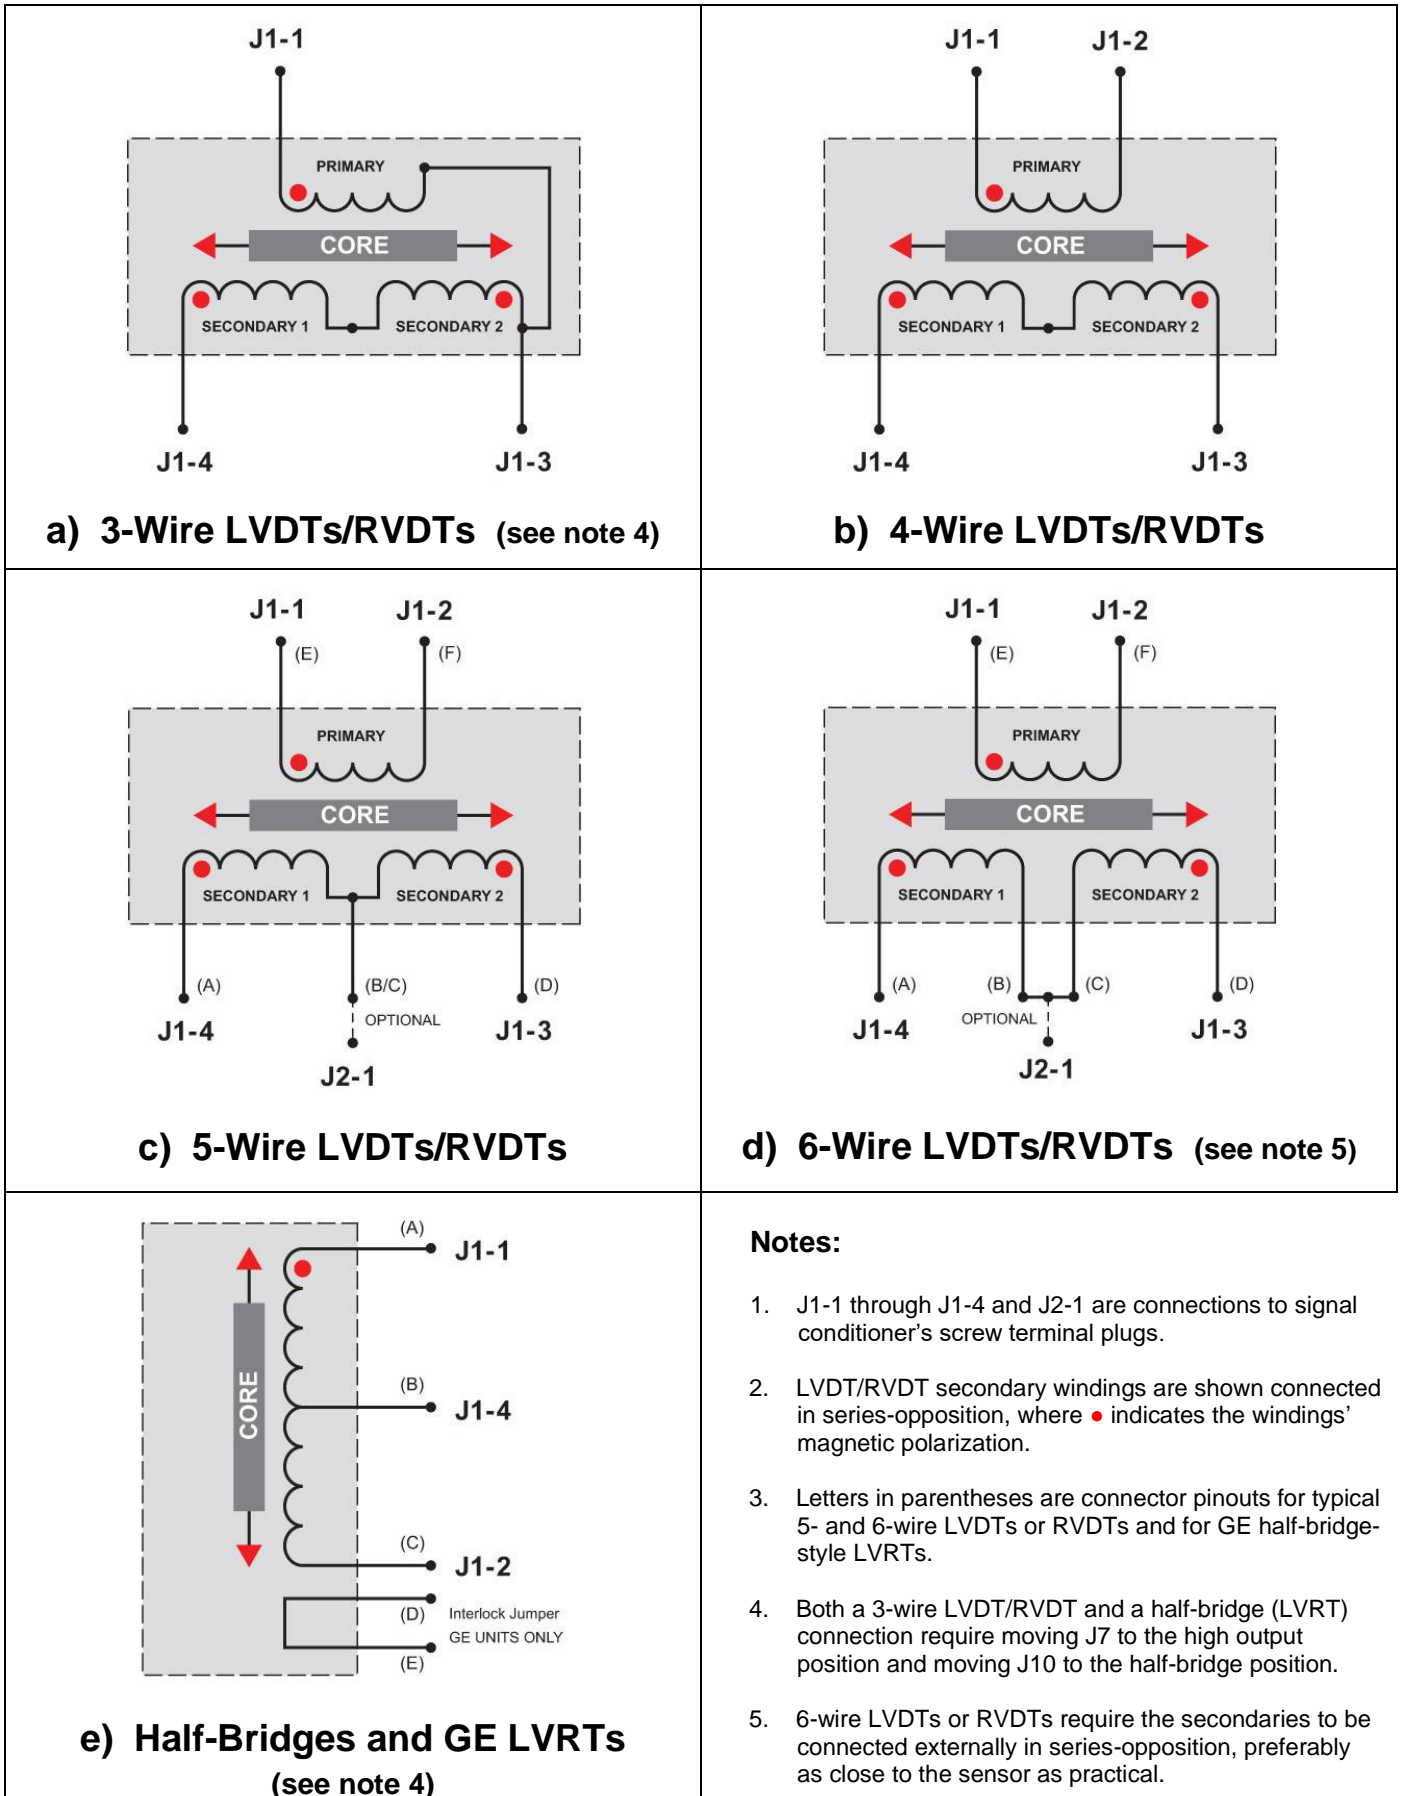

Figure 4 LVDT or RVDT and Half-Bridge (LVRT) Wiring Connections to S2A Signal Conditioner
4. Make the I/O connections: Following the connections on the right side label or in Table 3 on page 3 and the schematics of Figure 4 on page 4, connect the color-coded screw-terminal plugs at least to the LVDT's primary and secondaries (and the secondaries' junction point if needed), to DC power, and to the input of the PLC, control system, or analog output indicator. Connections to a failure alarm or the master/slave bus can also be made at this time. When finished, insert the colored plugs completely back into their corresponding colored jacks on the module.